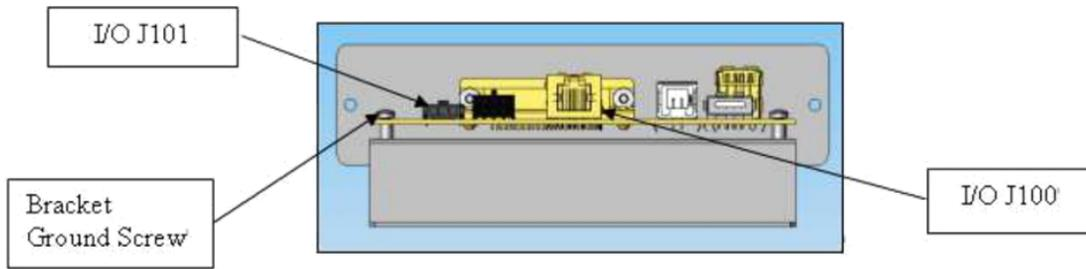

Figure 6: I/O Bracket
10. Connect the (Figure 6: I/O Bracket):